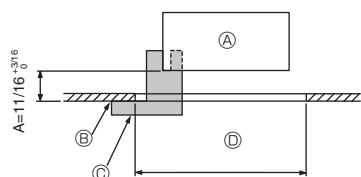
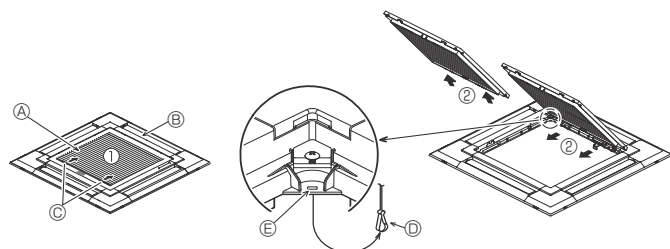
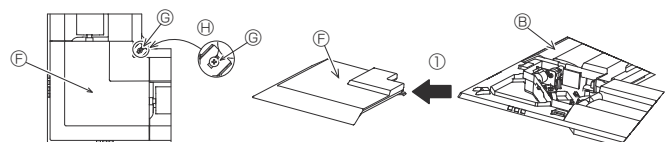

Fig. 2
Fig. 3
Fig. 4
①	Grille	1	950 × 950 (mm), 37-3/8 × 37-3/8 (inch)
②	Installation gauge	1	(Divided into 4 parts)
③	Screw (4 × 16)	1
④	i-see Sensor corner panel	1
2. Preparing to attach the grille (Fig. 2)
- With the gauge ② supplied with this kit, adjust and check the positioning of the main unit relative to the ceiling surface. If the main unit is not properly positioned relative to the ceiling surface, it may allow air leaks or cause condensation to collect.
- C Installation gauge ② (inserted into the main unit)
2.1. Removing the intake grille (Fig. 3)
- Slide the levers in the direction indicated by the arrows ① to open the intake grille.
- With the intake grille in the "open" position, remove the hinge of the intake grille from the grille as indicated by the arrows ②.
2.2. Removing the corner panel (Fig. 4)
- Loose the 4 screws on the corner. Slide the corner panel in the direction of the arrow ① in the figure and remove the corner panel.
[Fig. 3] [Fig. 4]